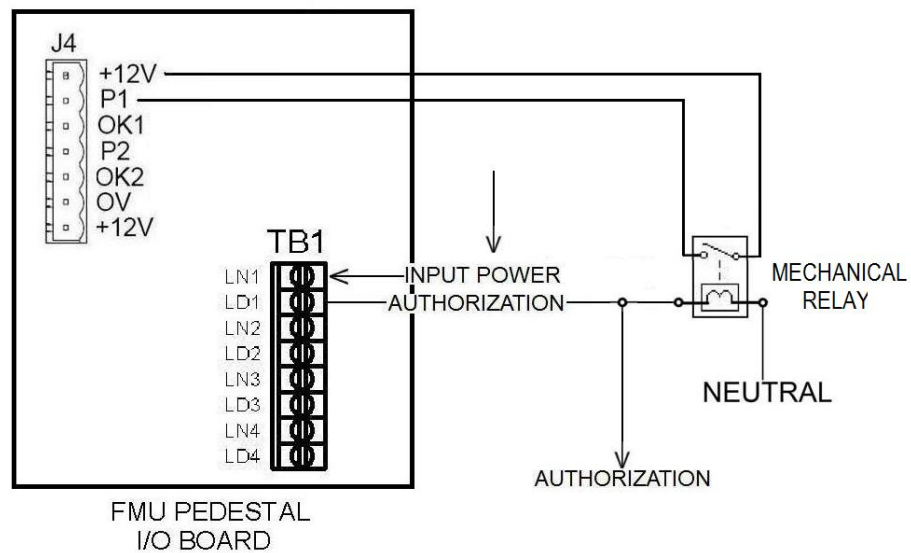

Figure 4-16. Generating Pulse with Solid State Relay Assembly
- b) **Using Solid State Relay Assembly (SSRA) to Generate Pulses.** A standard SSRA can only switch AC power. As a minimum, a DC relay with AC control needs to be added to switch +12V to P1. If the gate or carwash controller requires a DC momentary, a DC relay will also need to be added for authorization. If two or more mechanical relays must be installed, consideration should be given to exchanging the SSRA for a DCRA. Figure 4-16 illustrates how an SSRA may be wired to control the device, and send a pulse from +12V to P1. Repeat this wiring configuration for each FMU hose position used.